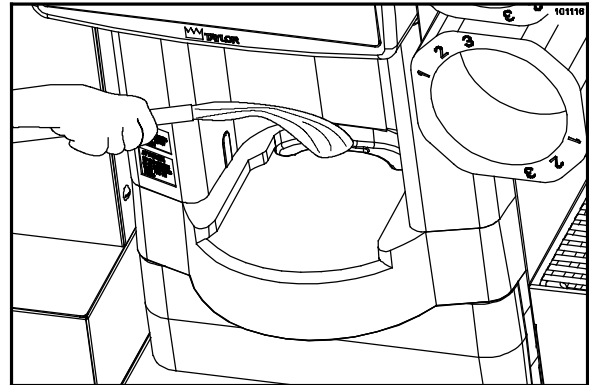

Figure 124
77. Carefully spray the proper amount of drain cleaning solution into the blender dispensing area drain hole. (See Figure 124.)